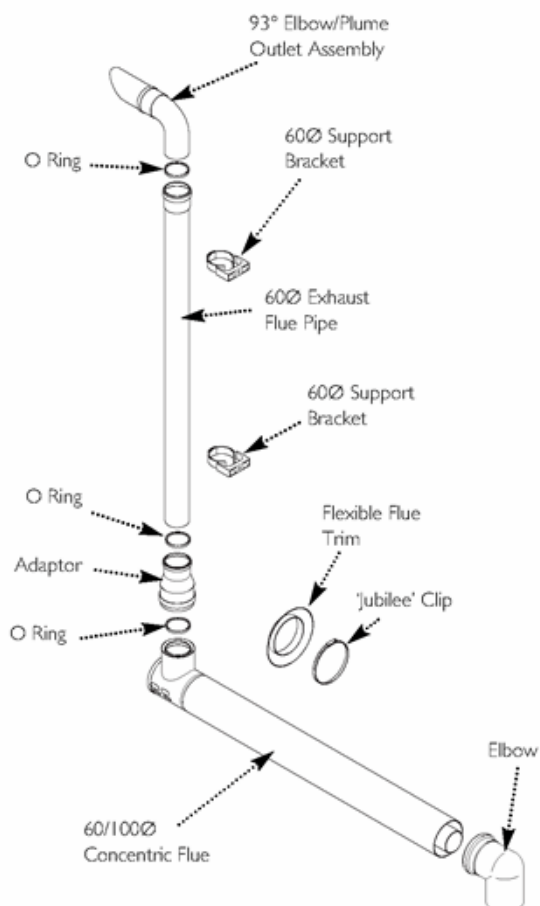

Fig. 14b
9.1 Plume Displacement Kit (Fig. 14b)